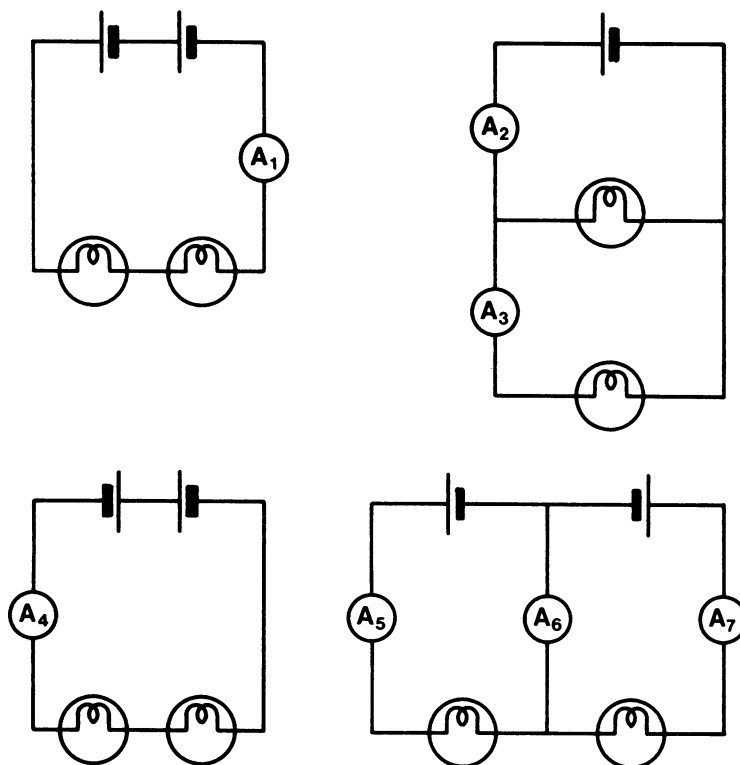

FIG. 3.28
22. In the circuits shown in Fig. 3.28, similar lamps, ammeters, and cells of negligible internal resistance are used. When one cell is connected in series with a lamp and an ammeter, the reading on the ammeter is 0.2 A.